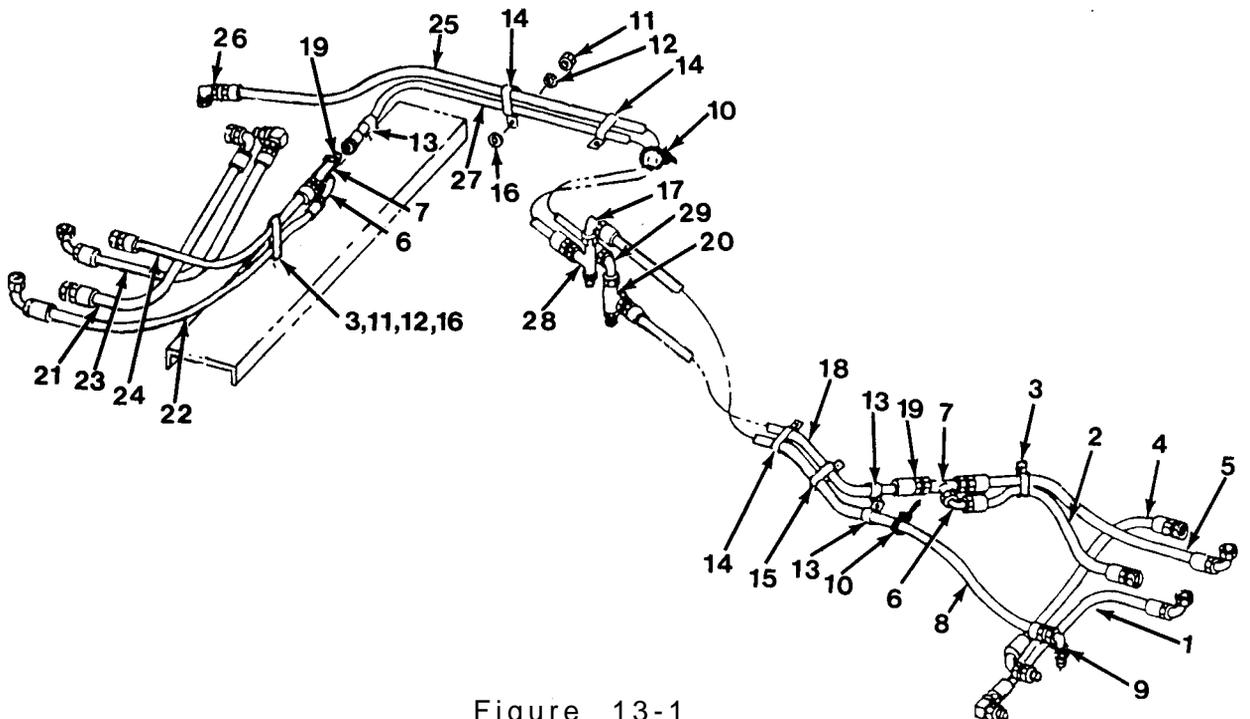

Figure 13-1
3. Remove hoses (1) and (2), from outrigger hold valve, solenoid and elbow (6, Figure 13-1).
5. Remove nut (11), washer (12), clamps (3) and washer (16).
6. Remove hoses (4) and (5), elbow (6) and tee (7) from outrigger hold valve.
7. Disconnect hose (8) from elbow (9).
8. Remove one of two plastic ties (10), four of seven nuts (11), washers (12), two of four clamps (13), two of six clamps (14), clamp (15) and four of seven washers (16).
9. Remove hose (8) from elbow (17).